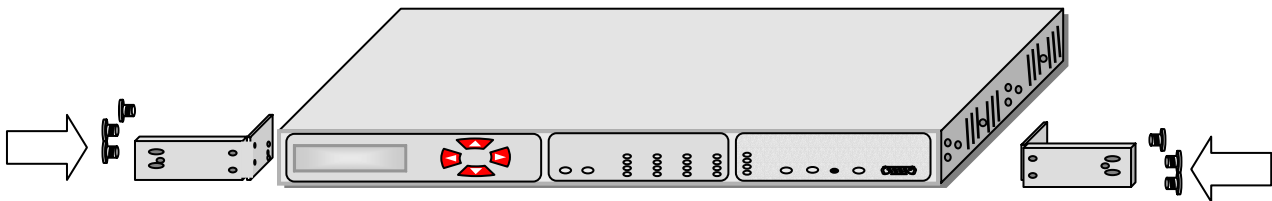

Fig.3 23-inch rack mountable (I)
2.2 In order to fit for different size of racks, the brackets can be fastened by means of screws to the two side walls of the case, as shown in Fig. 3.